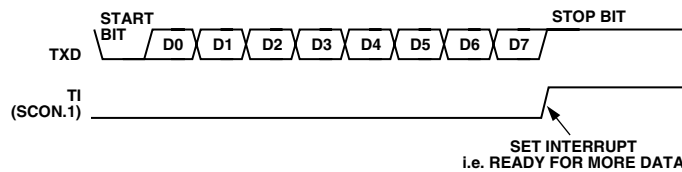

Figure 41. UART Serial Port Transmission, Mode 1.
Transmission is initiated by writing to SBUF. The 'write to SBUF' signal also loads a 1 (stop bit) into the ninth bit position of the transmit shift register. The data is output bit by bit until the stop bit appears on TXD and the transmit interrupt flag (TI) is automatically set as shown in Figure 41.